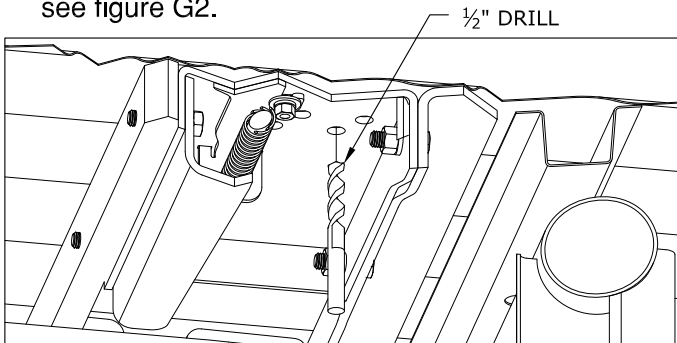

FIGURE G2: Cut away view of bed and center section
- 1. Drill the holes.** From under the bed use a drill and a  $\frac{1}{2}$ " drill bit to drill through the bed using the four holes that match up with a low rib in the truck as a guide. Remove any burrs created during the drilling process, see figure G2.